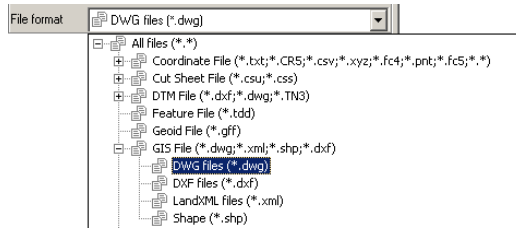

Figure 3-68. File Format List
- Select the file format (Figure 3-68).